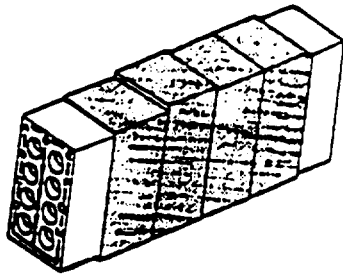

Figure 6. Feedthrough TJS Block
20. **FEEDTHROUGH BUSSING BLOCKS.** A feedthrough bussing block (Figure 6) has two faces containing contact cavities. The faces are diametrically opposite each other. A contact on one face of a block is electrically and mechanically common with a contact having the same identification letter but exiting from the other face of the block. Feedthrough bussing blocks are used for general purpose interconnection and bussing in applications where circuit wiring must be connected to two sides of the panel, bulkhead or patch board.